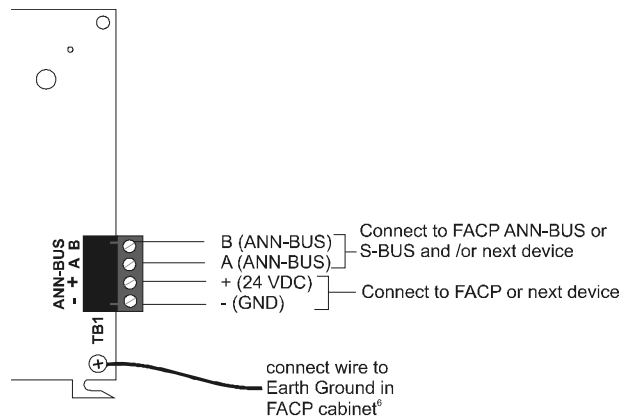

Figure 8: Wiring ANN-LED Series to an FACP
Refer to Table 2 and Figure 8 for wiring connections.
6. For Canadian applications, remote annunciators must have a wire connected from the ANN-LED circuit board (refer to Fig. 8) to a solid earth ground in the FACP cabinet. For multiple annunciators, daisy chain the wire connection.